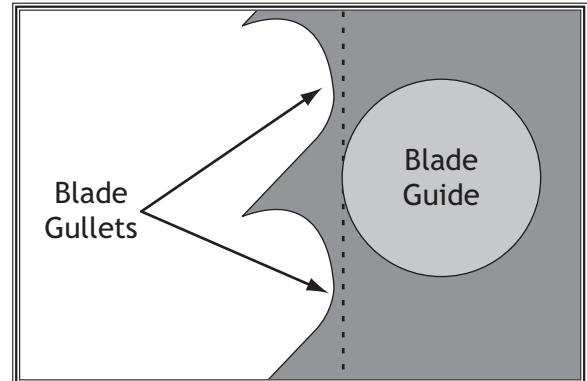

Figure 29. Lateral adjustment of blade guides.
5. Slide the guide assembly so the front edges of the blade guides are just behind the blade gullets as illustrated in Figure 29, then tighten the lateral adjustment thumb screw.